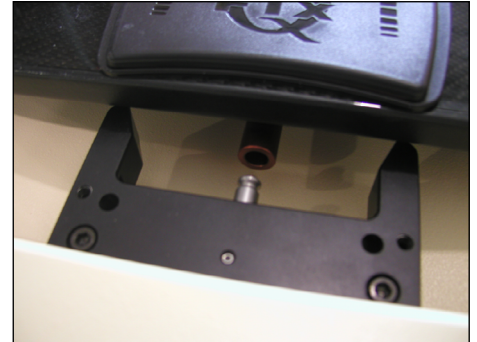

Fig. 11
3. Slide the CT Overlay toward the CT cradle foot end until the Red Alignment Pin is close to the metal pin on the Foot End Mounting Assembly (Fig. 11).